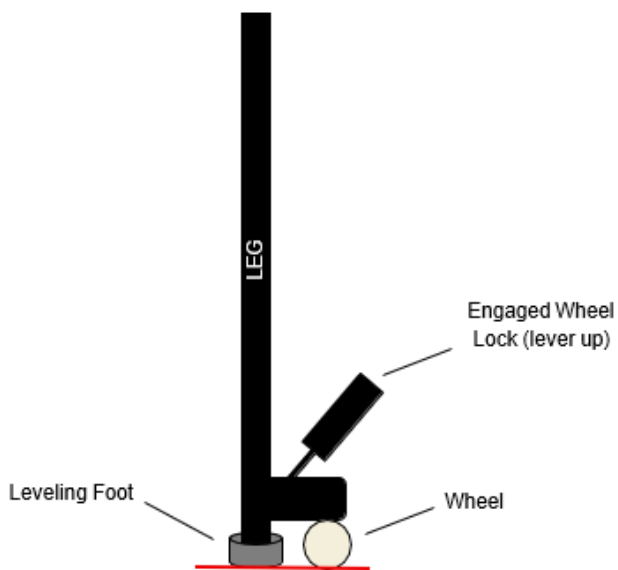

Fig. 16
16. After all casters are installed, adjust the leveling feet parallel with the wheel when the wheel lock is engaged (lever up) (Fig. 16) The stand should roll freely without the rubber feet touching the ground when the wheel lock is disengaged (lever down).